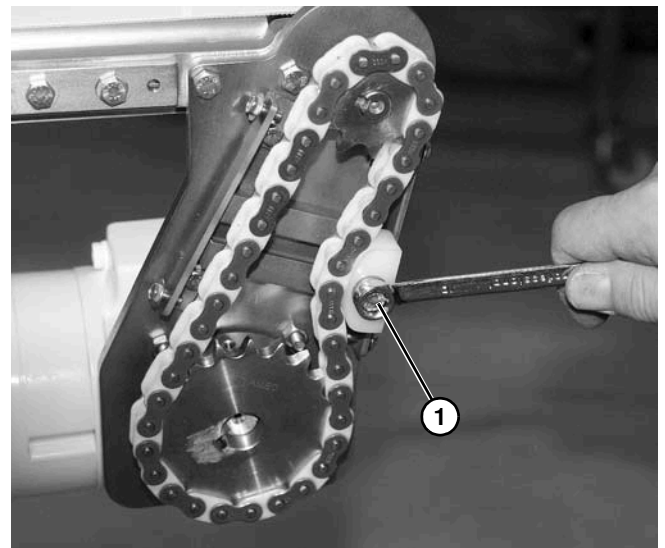

Figure 50
3. Remove timing chain tensioner screw (Figure 50, item 1).